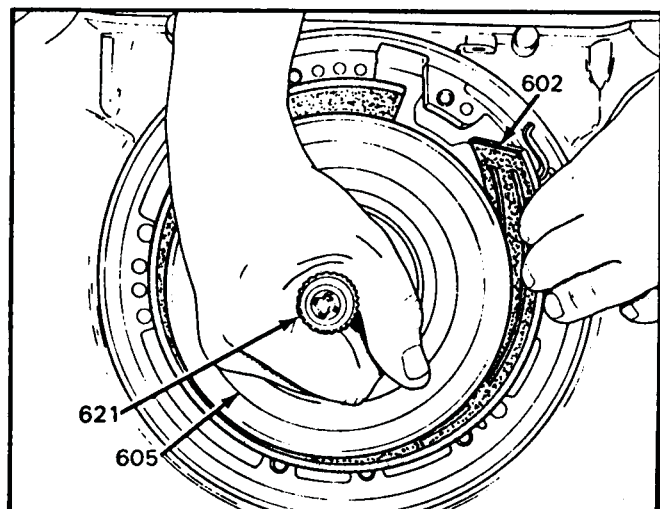

Figure 133
2. Install the 2-4 band assembly beginning as shown in Figures 133 and 134.